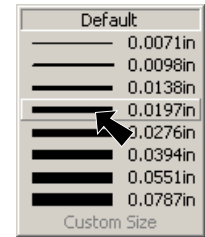

Fig. 18
Step 3. Click **Line Thickness**  on the Line Format toolbar and select the **.0197** thickness, Fig. 18.